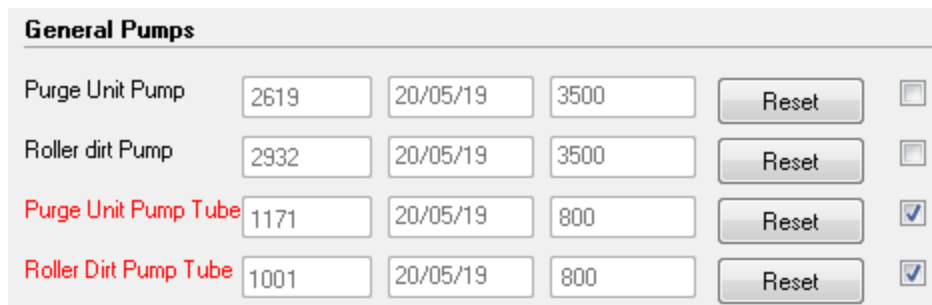

Figure 4-132 Pump Maintenance Counters
30. Open the *Maintenance Counters* screen, scroll down to the *General Pumps* section, and click **Reset** for the relevant counter(s) (see Figure 4-132 on page 4-91).